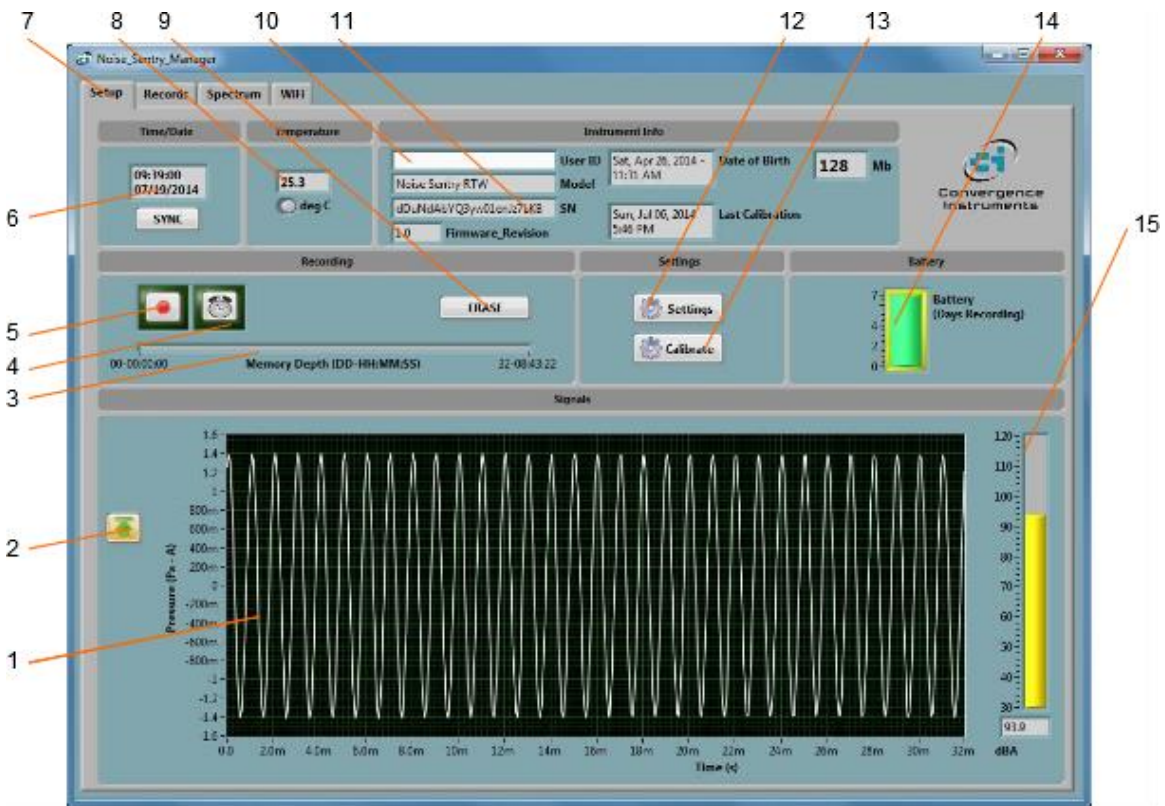

Figure 2 Setup Tab
4. The front-panel described in Figure 2 appears, and the application tries to connect to the instrument. If it fails to find the instrument it indicates *No Device Found*. If this is the case see section Troubleshooting.
- **The Setup Tab:** Is used to setup the instrument and monitor real-time signal (see Figure 2).
The setup tab is seen in Figure 2. It is divided into seven fields.